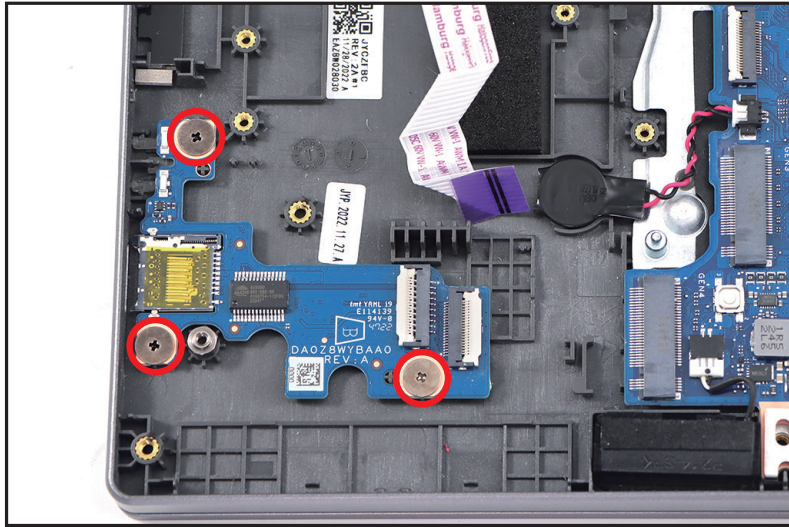

Figure 1-29. Card Reader Board Removal
4. Remove three (3) screws securing the card reader board in place (Figure 1-29).